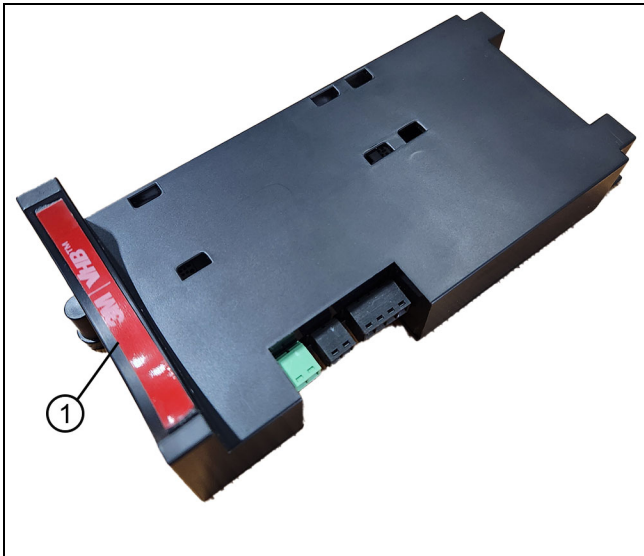

Figure 11
1. Peel the backing from the VHB tape on the module. See Figure 11.